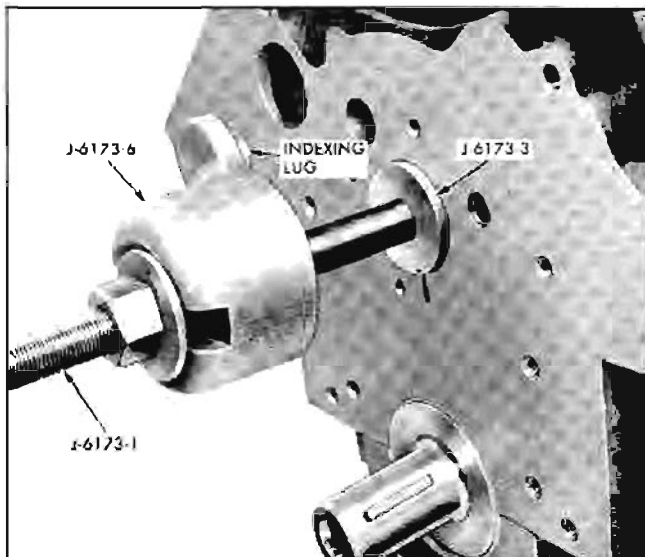

Fig. 6-42 Positioning Indexing Collar
4. Insert shaft and Indexing Collar through Remover and Replacer Adapters and position lug on Indexing Collar in ventilator hole in front of block (Fig. 6-42). This indexes the shaft so that it cannot rotate.
6. Insert Shaft with Indexing Collar, thrust washer, and nut through Remover, pilot and Replacer Adapters and index lug on Collar with ventilation hole in front of block (Fig. 6-42).